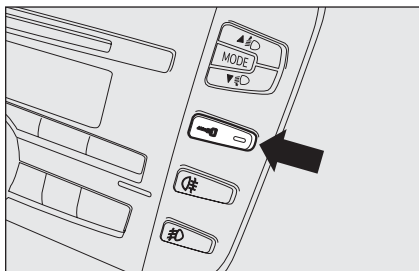

fig. 13
- button **fig. 13** for locking/unlocking the doors, placed on the central panel;